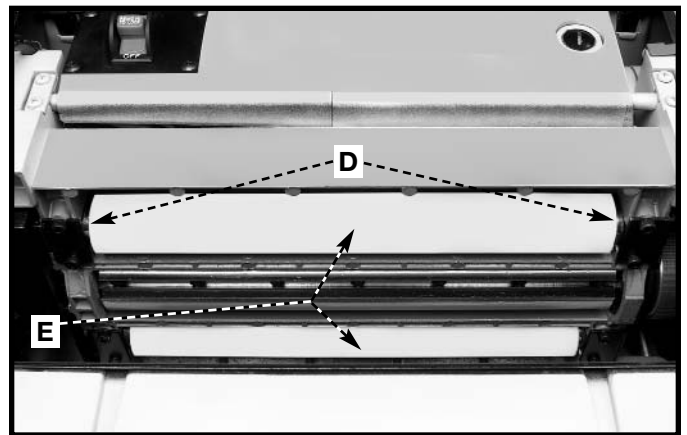

Fig. 30
3. Place the planer on its back and squirt oil on the feed roller bushings (D) Fig. 30 at each end of the feed rollers (E).